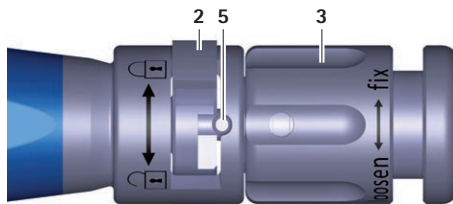

Fig. 4 Close-up view of the insertion instrument, trial implant/implant clamped
- ▶ Turn the rotary nut **3** on the insertion instrument **A** clockwise ("tighten" direction) until the trial implant is clamped, see Fig. 4.
- ▶ Turn the rotary nut **3** on the insertion instrument **A** clockwise (:"tighten" direction) until the trial implant is clamped, see Fig. 4.